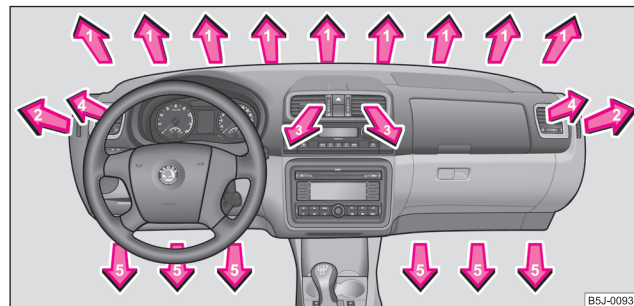

Fig. 86 Air outlet vents
- Move the air outlet vents **3** and **4** so that the air flow is directed slightly upwards ⇒ page 102, fig. 86.
- Move the air outlet vents **3** and **4** ⇒ page 102, fig. 86 so that the air flow is directed slightly upwards.
You can control the air distribution to the air outlet vents via the buttons of the operating part of the Climatronic ⇒ page 99. Air outlet vents 3 and 4 ⇒ fig. 86 can also be opened or closed individually. ■